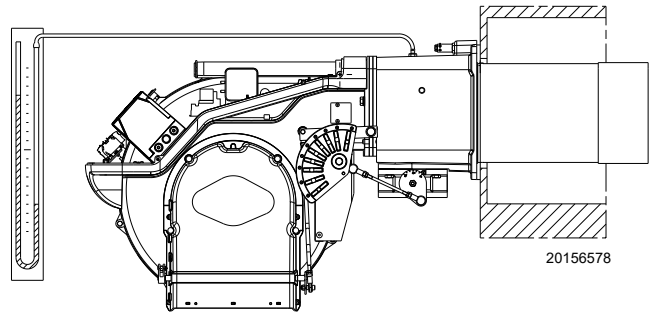

Fig. 34
- Fit a U-type pressure gauge (Fig. 34) to the gas pressure test point on the pipe coupling.
The arrival of gas to the sleeve is indicated by the U-type pressure gauge (Fig. 34, on page 26).
A rough indication can be obtained from Tab. J, on page 22, just read the gas pressure on the "U" pressure gauge (see Fig. 34, on page 26) and follow the indications.